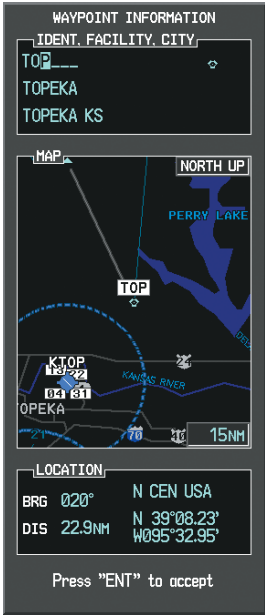

Figure 7-14 Entering V4 Entry Point
- c) Turn the small **FMS** Knob to display the Waypoint Information Window. Enter the desired entry point for V4, Topeka VOR (TOP), as shown in Figure 7-14.